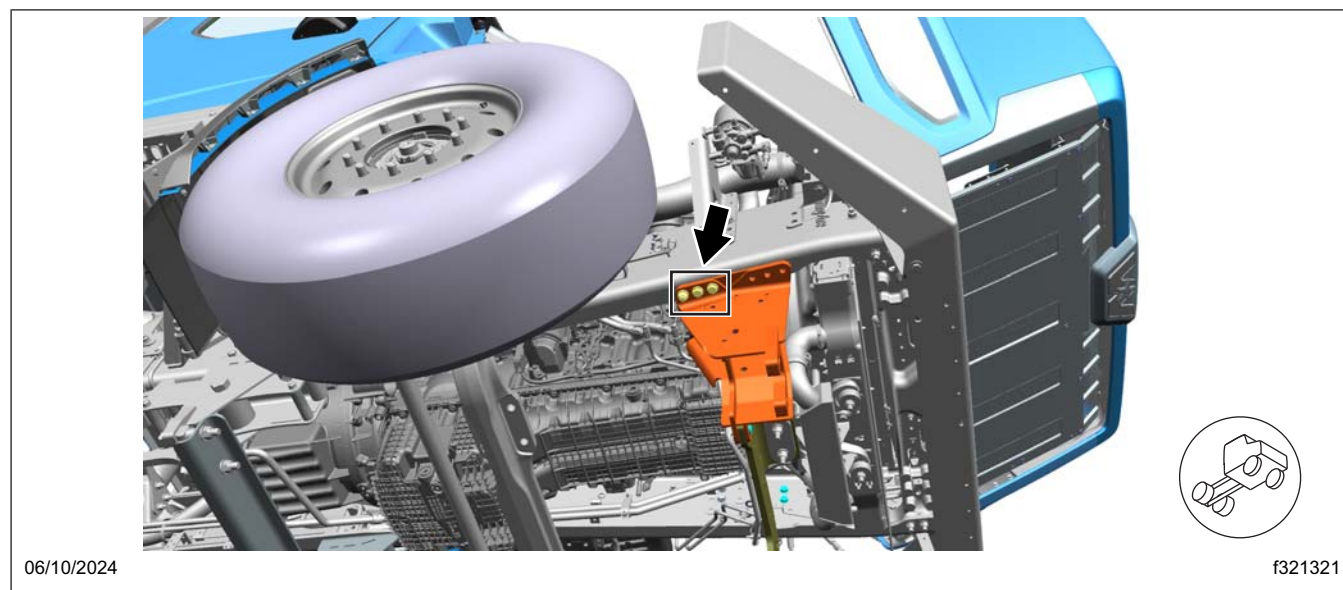

Fig. 5, Front Suspension Hanger Fasteners
7. Remove the front suspension hanger fasteners that attach the suspension hanger to the frame rail. See Fig. 5.